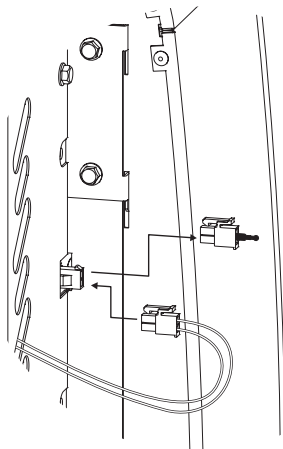

Figure 4
8. Remove temperature sensor from wall furnace and insert the wire harness connector. **See Figure 4.** Retain temperature sensor.